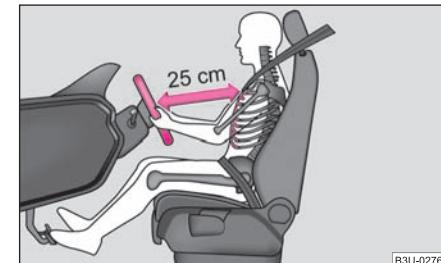

Fig. 106 The correct distance of the driver from the steering wheel
- Adjust the steering wheel so that the distance between the steering wheel and your chest is at least 25 cm ⇒ fig. 106.
- **The driver must maintain a distance of at least 25 cm to the steering wheel ⇒ page 98, fig. 106. Not maintaining this minimum distance will mean that the airbag system will not be able to properly protect you - hazard!**